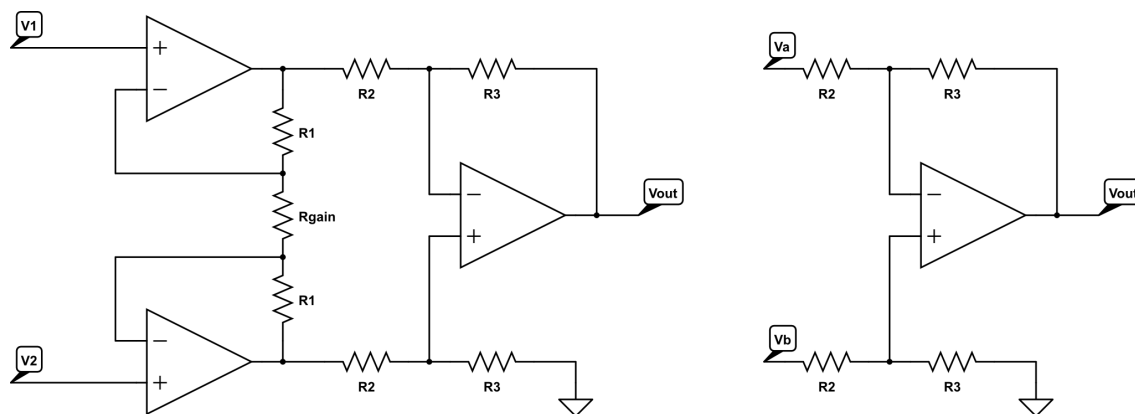

Figure 7: The instrumentation amplifier (left) is composed of a differential amplifier (right) and two input buffers.
- (11) Consider the case where $R_1 = R_2 = R_3$. Determine the resistance that would result in $V_{out} = 1.2(V_2 - V_1)$, if $R_{gain} = 100k\Omega$.
- (12) Construct the instrumentation amplifier circuit shown in Fig. 7, using the resistance values determined in (11). Using a 1kHz 5Vp-p sine wave as your input for V_1 and the +5V power supply as your input for V_2 , verify equation 2.
Question 2 Using the ‘golden rules’ and Kirchoff’s current law, show that the gain for the differential amplifier in Fig. 7 is given by